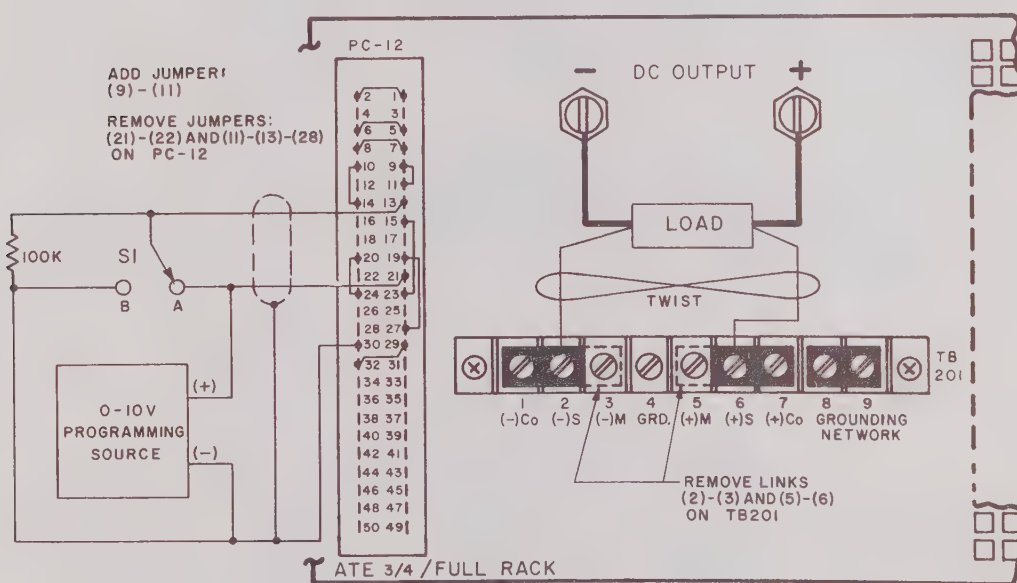

FIG. 3-15 CONNECTIONS FOR SIMULTANEOUSLY PROGRAMMING THE ATE OUTPUT VOLTAGE AND THE CROWBAR LEVEL (AUTOMATIC TRACKING).
- 1) Connect jumpers on the REAR PROGRAMMING CONNECTOR as indicated in FIG. 3-15 and connect switch (S1) as shown. Turn front panel CROWBAR LEVEL control fully counterclockwise.
- 2) Connect a substitute LOAD and the EXT. PROGRAMMING SOURCE as shown in FIG. 3-15.
- 4) Remove S1, and connect a jumper between (13)-(21) of PC-12. Connect the actual LOAD, reactivate the ATE circuit breaker and commence operation. Should erratic triggering occur in actual operation, set front panel CROWBAR LEVEL control slightly clockwise. This will increase the "threshold" voltage; that is, the difference voltage between the crowbar level and the operating voltage.
⁽¹⁾ For operation with the ATE in "FAST" mode, all connections shown in FIG. 3-15 are valid, for both "SLOW" and "FAST" operating modes, except as follows: